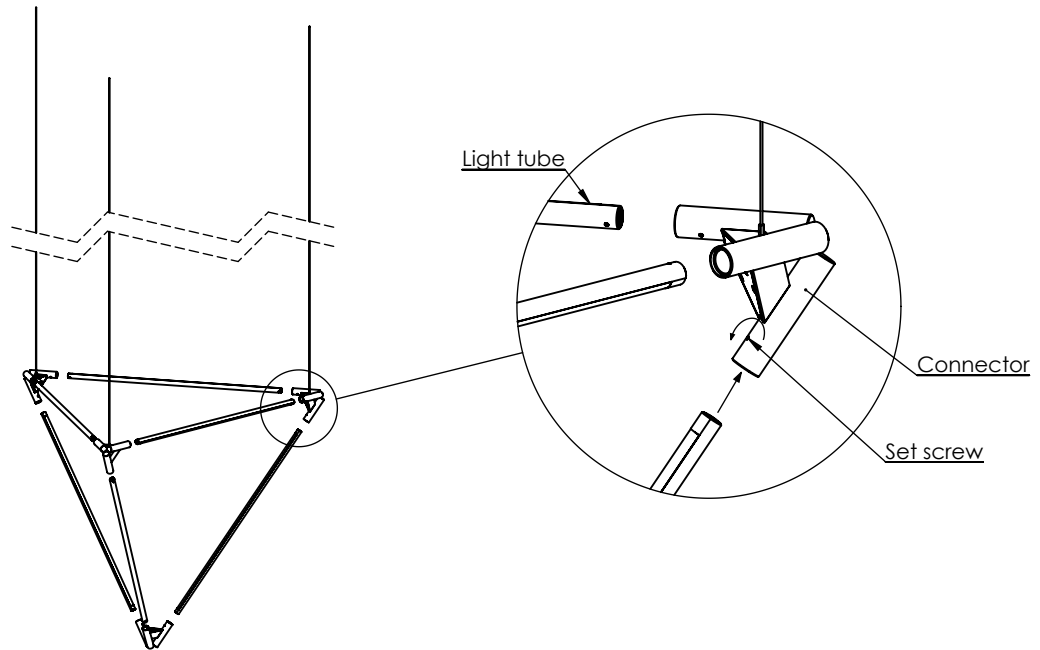

FIGURE 4
NOTE: Figure 4 shows TETRAHEDRON as an example. Please install the correct number of light tubes according to your fixture's configuration. The instructions below are same for all SOLIDS.
2. Insert Light tubes into the connectors as shown in FIGURE 4.